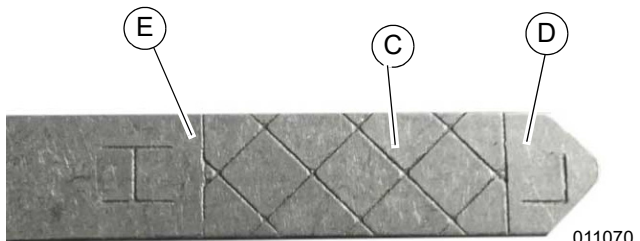

Figure 4-3. Oil Dipstick and Fuel Fill
10. See Figure 4-3. Continue adding a few ounces at a time and check oil fill/dipstick until oil level is in hatched area (C) between the bottom of the oil dipstick (D) and H(igh) mark (E). **Do not overfill.**